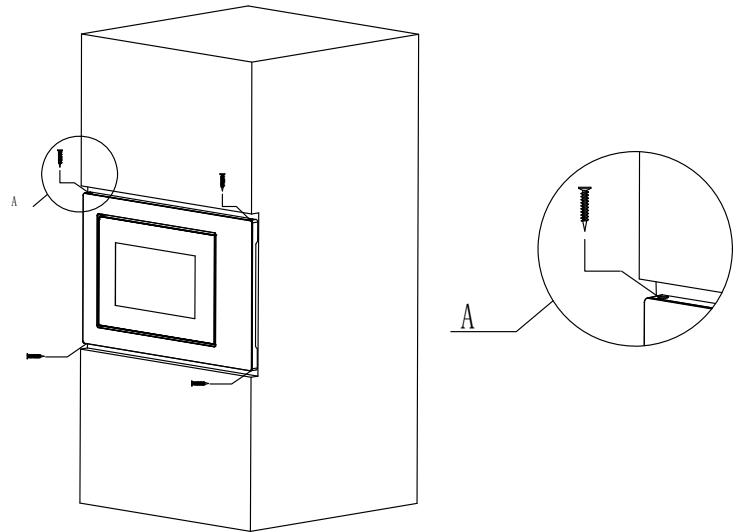

Fig.4
- e) Use the screws of parts packing to secure the microwave oven in the cabinet. (Fig.4)